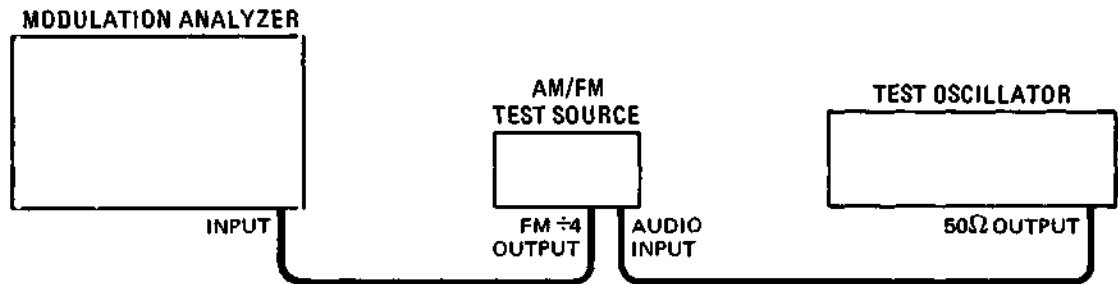

Figure 4-8. Modulation Analyzer Incident AM Verification Test Setup
- a. Connect the FM ÷4 output of the AM/FM test source to the input of the modulation analyzer and the 50Ω output of the test oscillator to the audio input of the AM/FM test source, as shown in Figure 4-8.